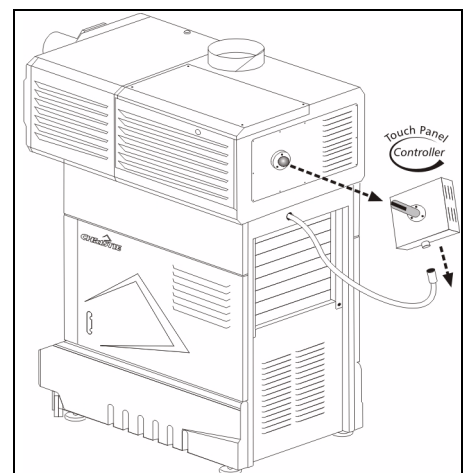

Figure 3-4 Typical TPC Mounting
- a. Attach the Touch Panel Controller (TPC), pre-assembled with its ball joint base and mounting arm, to the matching ball joint base secured at the rear of the projector (**Figure 3-4**).